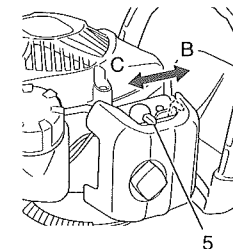

Fig. 5
2. Set choke lever (5) to CLOSED position (B). (Fig. 5)